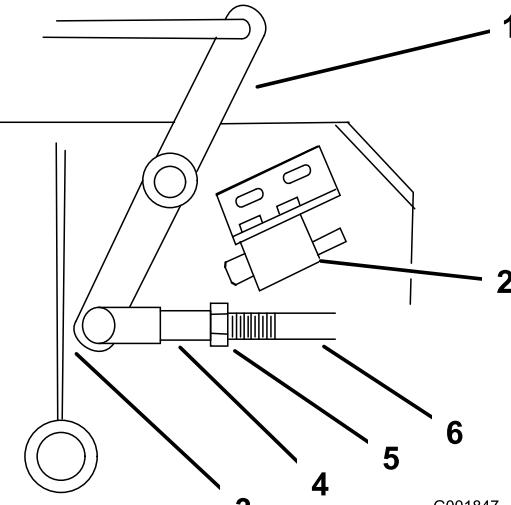

Figure 47
- Adjust the linkage length to where the lower end of the bellcrank just clears the axle support gusset (Figure 47).
9. Loosen the nut against the yoke (Figure 47).